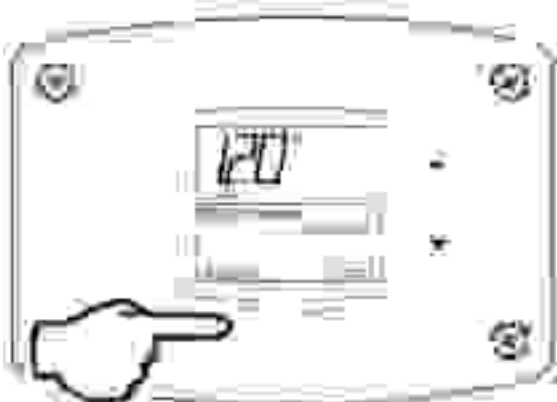

Fig. 52
2. For water heaters using two temperature sensors, pressing the 'Select' button again displays the Upper Sensor temperature reading. 'Upper Sensor' will be displayed in the lower right side of the status window of the water heater display (Fig. 52).